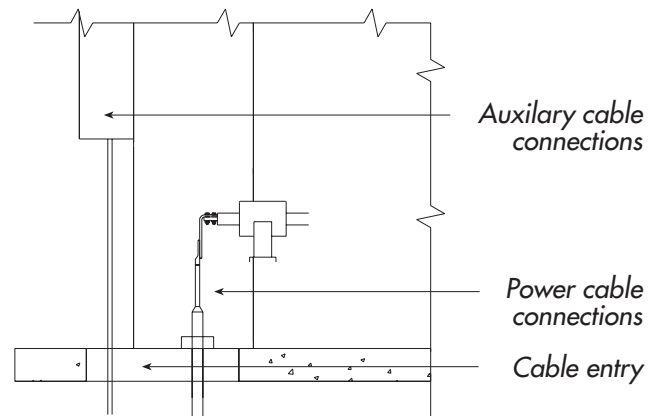

Fig 2.18 Cable connection
- connect the cable using bolts and nuts, refer to figure 2.18